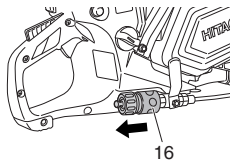

Fig. 16
1. Remove coupler (16) by pulling the coupler from the machine. (Fig. 16)